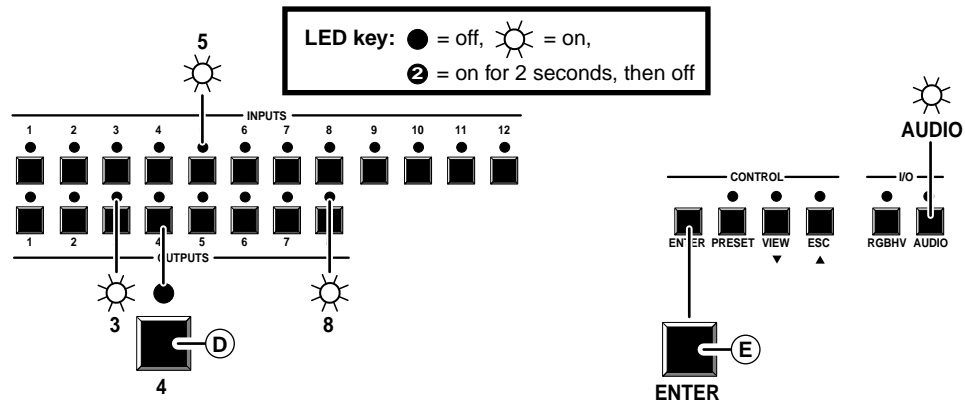

Figure 26 — Example 3d: Removing an audio tie
- Ⓓ Press and release the output 4 button (figure 26). The output 4 LED turns off, while the output 3 and output 8 LEDs remain lit.